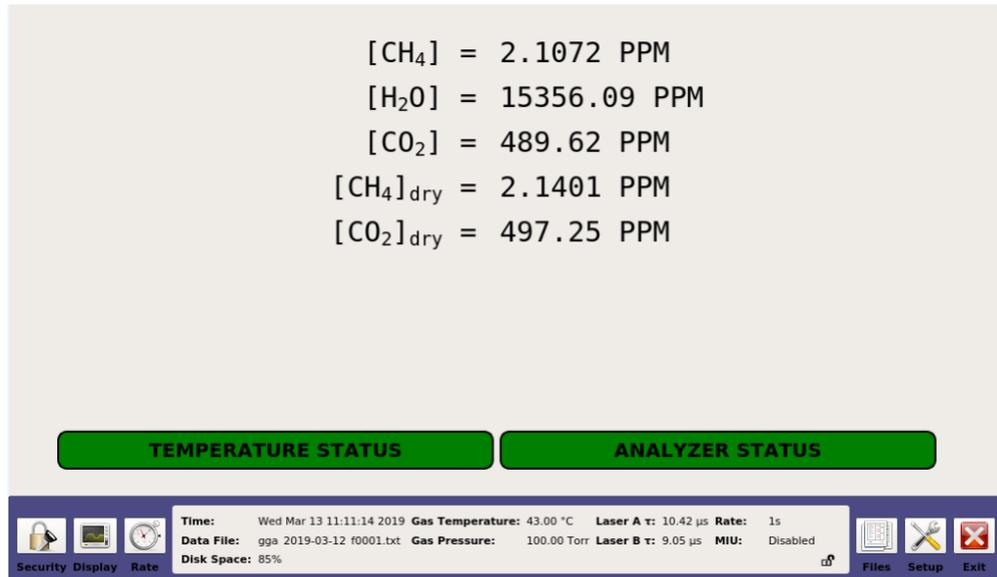

Figure 26: Numeric Display Screen
- *Numeric* (Figure 26)
The *Numeric* display is the default display and one of the simplest screens for go/no-go decisions based strictly on gas concentration measurements. Sample gas is measured in parts per million (ppm). The resolution unit auto-adjusts. Figure 26 shows an example of a GLA131-GGA numeric readout of the last measurements of CH₄, H₂O, CO₂, CH₄ (Dry), and CO₂ (Dry) in parts per million (ppm). The displayed numeric readout may vary, depending on the analyzer type. In addition, the analyzer color-coded operational status is indicated (for details on color coding, refer to *Alarm Status Display*).